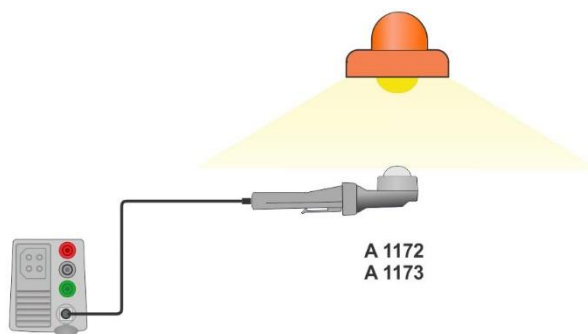

Figure 7.128: LUXmeter probe positioning
- › Take the position of LUXmeter probe, see **Figure 7.128**.